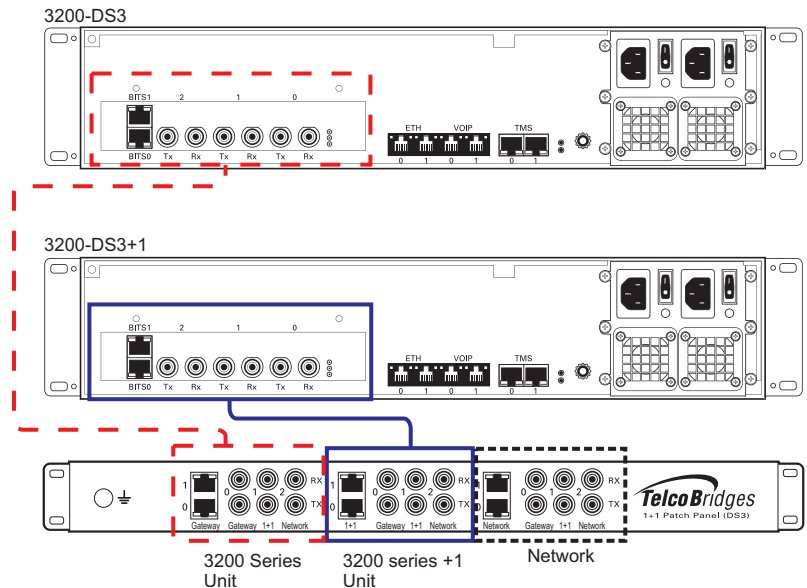

Figure 2.15 3200-DS3 and 3200-DS3+1 connecting to the TDM 1+1 DS3 1+1 patch panel
A 3200-DS3 and 3200-DS3+1 each with 3 sets of BNC connectors enables the connection to DS3 lines. See figure 2.15 on page 38.
1. Connect each DS3 line from the network section of the 1+1 patch panel to the remote equipment. See figure 2.15 on page 38.